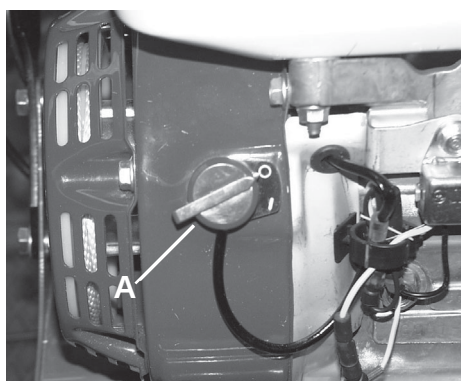

Fig. 6.5
6.5 INTERRUOTTORE DI ACCENSIONE (A Fig. 6.5)